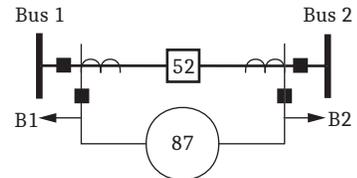

Figure 16 Two CTs Configured With a Differential Element Across the Breaker
- Two CTs configured with a differential element across the breaker (Figure 16)